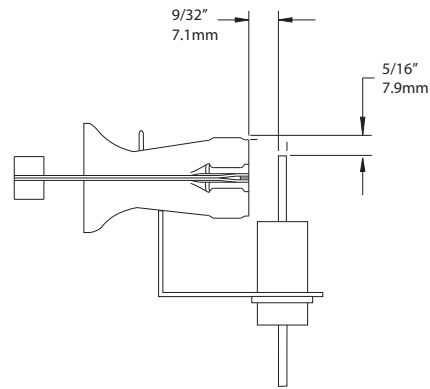

Fig. 21 – Igniter Position – Side View
6. For Silicon Nitride igniters, see Fig. 21 and 22.